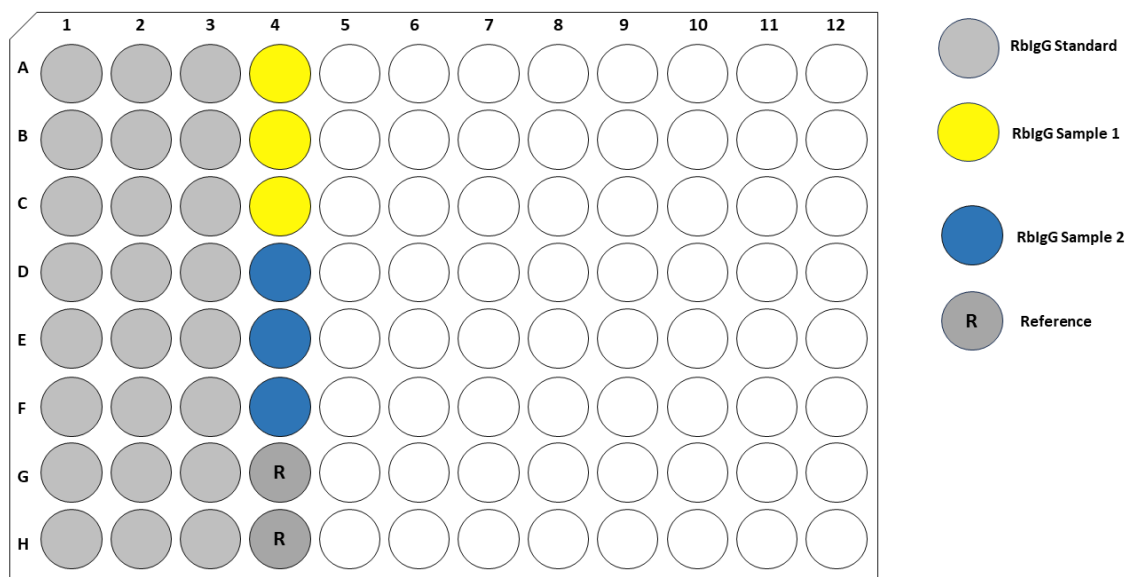

Figure 5: Example plate layout for a spike recovery assay.
3. Transfer triplicates of the prepared standards and the samples to a sample plate. It is recommended to organize samples in columns, from A–H. Fill at least one well with blank diluted matrix for reference subtraction during data analysis. An example plate map is shown in Figure 5.